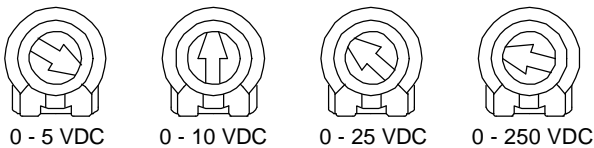

Figure 12. SIGNAL INPUT ADJ - Calibration Positions
The SIGNAL INPUT ADJ is calibrated only when the PCM4 is following a voltage signal. When the PCM4 is following a current signal set the SIGNAL INPUT ADJ fully CW. See Figure 12 for approximate calibration of SIGNAL INPUT ADJ.
2. Set the SIGNAL INPUT ADJ to the input range position, as indicated on Figure 12, page 22.